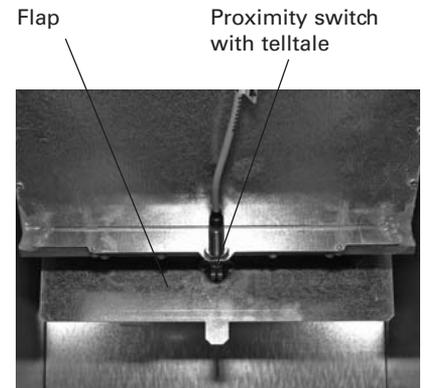

Fig. 139 Feed unit flap
- Remove dust in feed unit and on flap, check flap for ease of movement – Fig. 139. Full surface of flap must make contact with feed unit. Telltale on proximity switch must light up brightly when flap is closed.